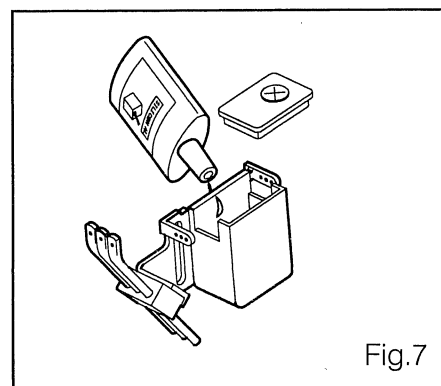

Fig.7
Fill reservoir (1) with silicone oil to prevent the thread from breaking. (Fig.7)